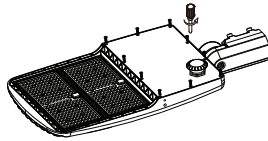

Figure 29
Step 1: Use a screwdriver to remove the screws from the power cover.(Figure 29)